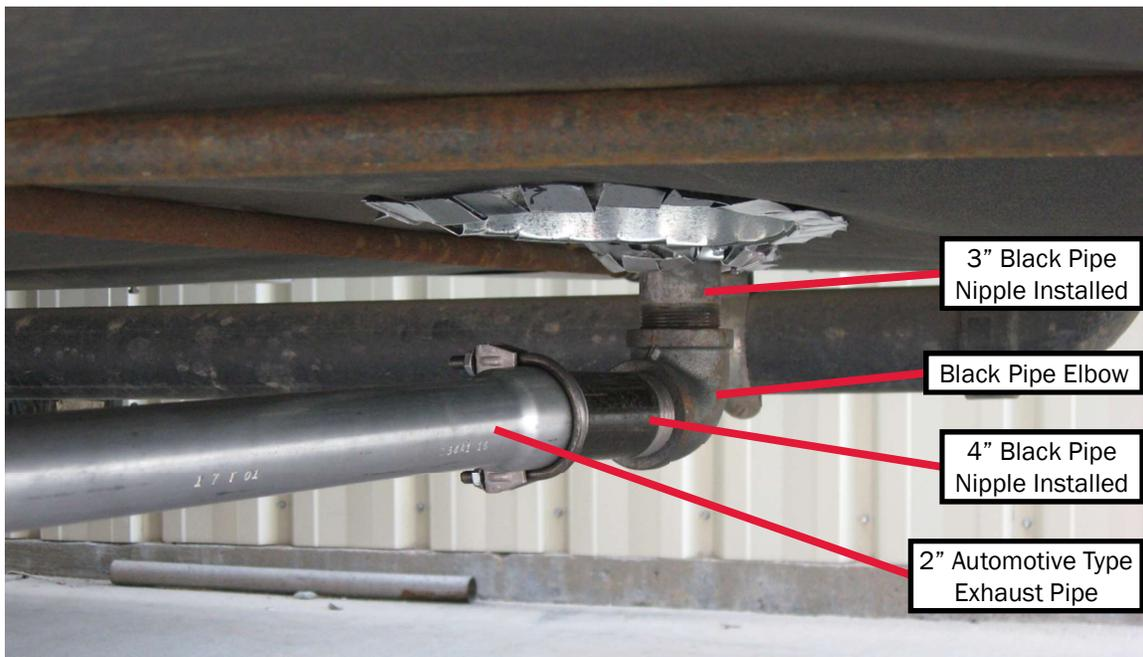

Figure 19
- Use standard 2" automotive-type exhaust piping and avoid bends, if possible. A minimum 1.75" ID automotive-type exhaust pipe may be used. See Figure 17 & Figure 19.
- Do not use galvanized pipe fittings (only black-iron pipe and fittings should be used). Reference Figure 19.